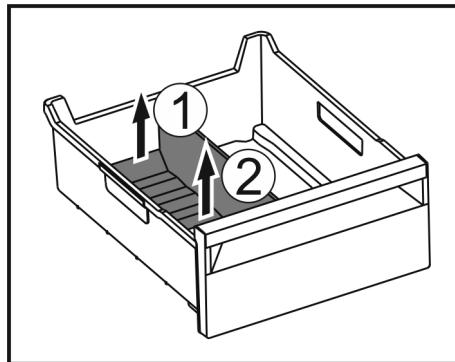

Fig. 195
- ▶ 提升冰格分隔器后部。Fig. 195 (1)
- ▶ 向上取出冰格分隔器。Fig. 195 (2)